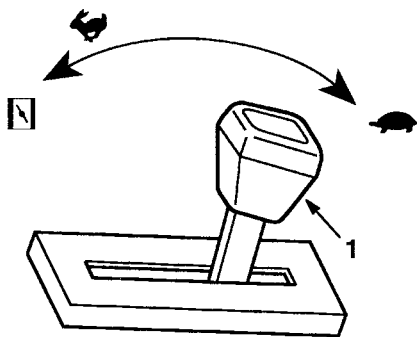

Figure 14
2. Move throttle lever to CHOKE  position (Fig. 14).
5. When engine starts, move throttle to FAST  position (Fig. 14).
1. Move throttle lever to SLOW  position (Fig. 14).